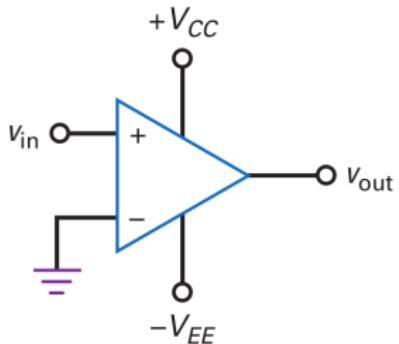

Figure 1: Comparator
- The simplest way to build a comparator is to connect an op amp without feedback resistors, as shown in Fig. 1.
- ▶ The comparator of Fig. 1 is called a **zero-crossing detector** because the output voltage ideally switches from low to high or vice versa whenever the input voltage crosses zero.